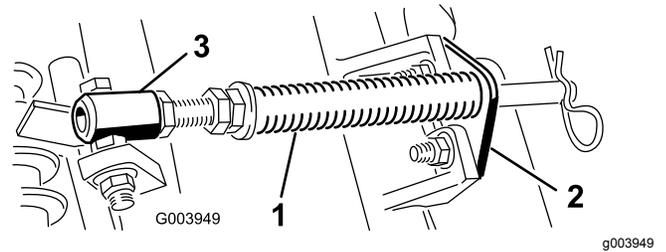

Figure 5
- Remove the 2 carriage bolts and nuts securing the rod bracket to the cutting-unit tabs (Figure 5).
- Remove the flange nut securing the spring-tube bolt to the carrier-frame tab (Figure 5). Remove the assembly.